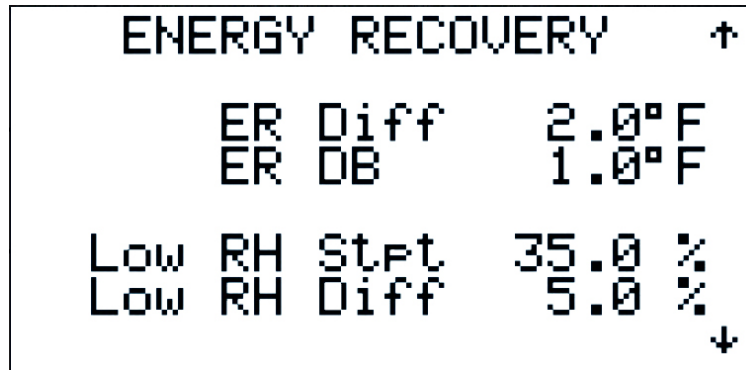

Figure 55
2.3.3.2.2 Tuning – Energy Recovery (Figure 55)